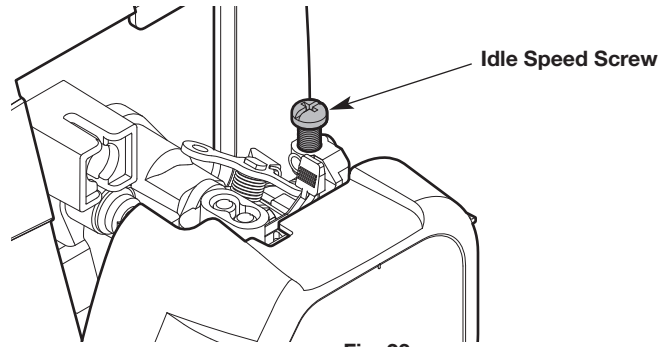

Fig. 23
- If the engine stops, increase the idle speed. Use a small Phillips screwdriver to turn the idle speed screw clockwise, 1/8 of a turn at a time, until the engine idles smoothly (Fig. 23).
- If the saw chain spins when the engine idles, reduce the idle speed. Turn the idle speed screw counterclockwise, 1/8 of a turn at a time, until the saw chain stops moving (Fig. 23).